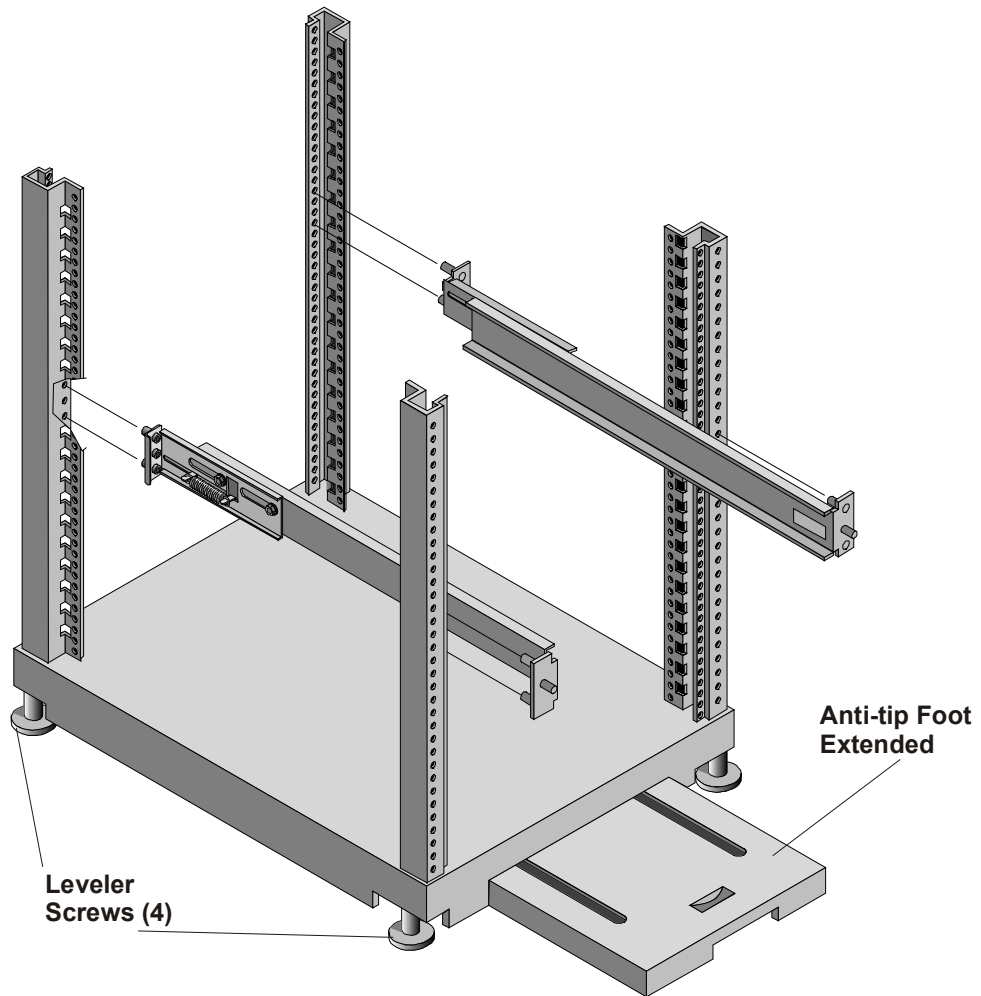

Figure 8-4. Mounting Outer-Rails to Columns
See Figure 8-4 for the anti-tip foot location.
- Lower the leveler screws on the rack's lower four corners to make firm contact with the floor. See Figure 8-4.
- Align the left outer-rail to the left front and rear columns as shown in Figure 8-4.
To prevent the rack from rolling while you mount the HP Netserver, ensure the leveler screws on the rack's lower four corners are in firm contact with the floor. See Figure 8-4.